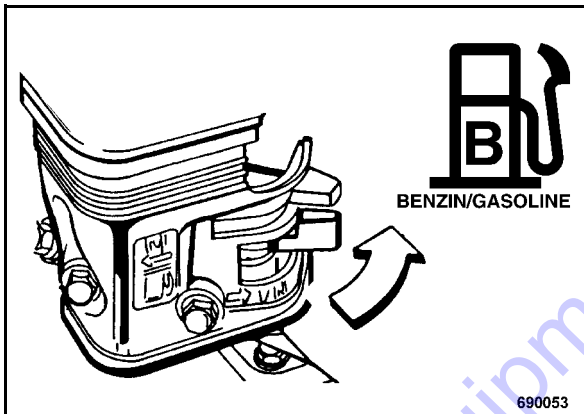

Fig. 62
- Open the fuel tap (Fig. 62) by turning in direction of arrow.